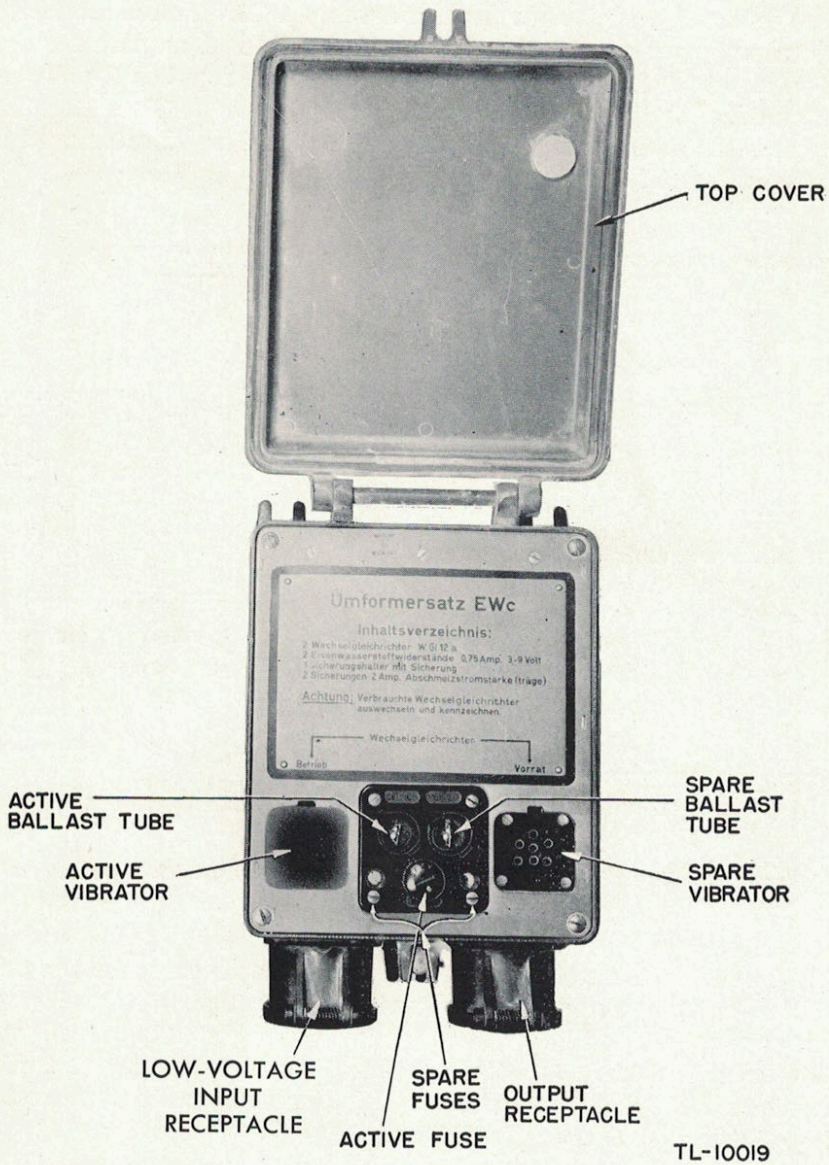

Figure 3. Vibrator power supply for German radio set Torn. E. b., top view with cover opened.
b. **Vibrator Power Supply Type EWc.** (1) The **Umformersatz EWc** (vibrator power supply type EWc) shown in figure 3, is used when the **Torn. E. b.** (portable receiver b) is operated from a 12-volt storage battery, such as is used in a vehicle. The **Umformersatz EWc** (vibrator power supply type EWc) draws about 1 ampere from a 12-volt storage battery. The output receptacle supplies 2 volts at 0.8 ampere for the filaments, and 90 to 100 volts at 10 to 12 milliamperes for the plates of the tubes in the set. The vibrator used is of the self-rectifying type.